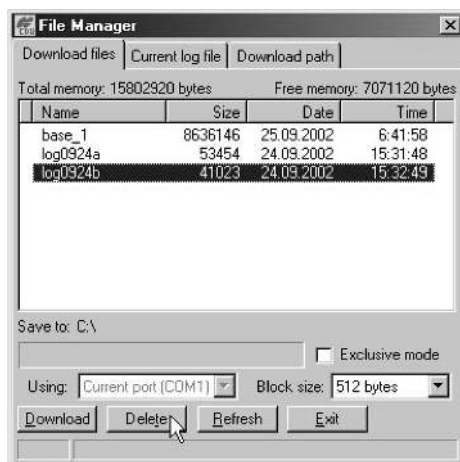

Figure 4-11. Delete Files
3. On the **Download files** tab or **Current log files** tab, select the file(s) you want to delete (Figure 4-11 on page 4-15).